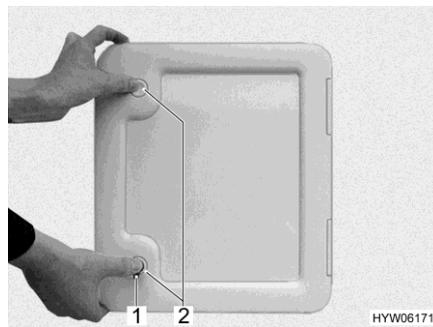

Fig. 164 Flap (sewage tank)
- Open the flap for the sewage tank on the outside of the vehicle. Insert the key into the locking cylinder of the push-button lock (Fig. 164,1) and turn a quarter turn in a clockwise direction.
- Press both push-button locks (Fig. 164,2) simultaneously with your thumb and open the flap for the sewage tank.